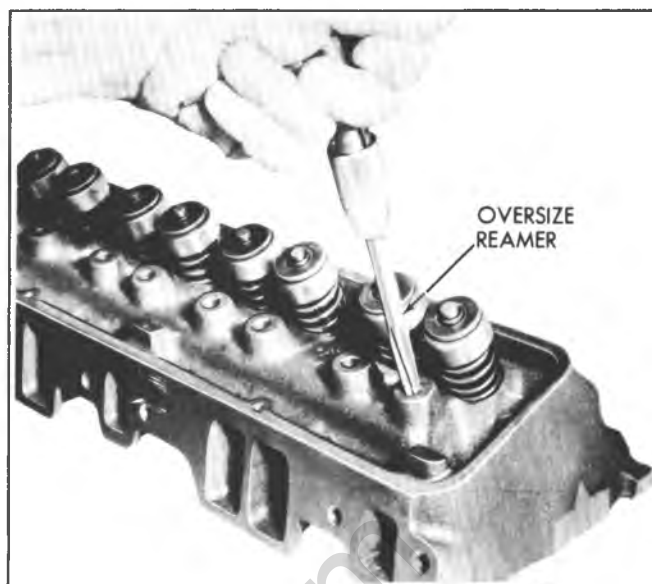

Fig. 6A1-19--Reaming Rocker Arm Stud Bore - Typical
1. Remove old stud by placing Tool J-5802-A over the stud, installing nut and flat washer and removing stud by turning nut (fig. 6A1-18).
2. Ream hole for oversize stud using Tool J-5715 for .003" oversize or Tool J-6036 for .013" oversize (fig. 6A1-19).